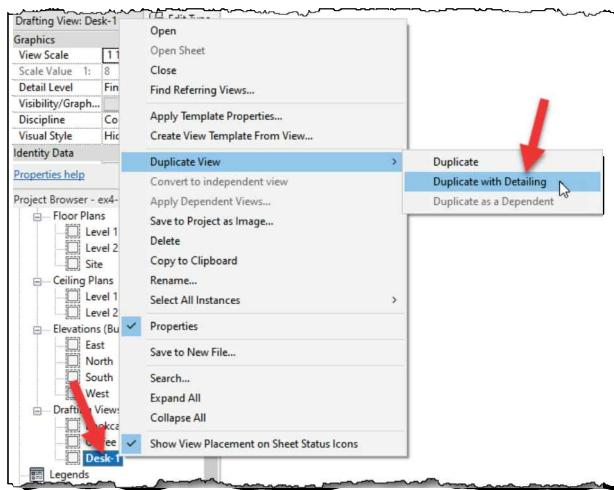

FIGURE 4-1.4 Drafting Views list – Right click on *Desk-1* view for menu
11. Right-click on the *Desk-1* view (Figure 4-1.4).
12. Select **Duplicate View → Duplicate with Detailing** from the pop-up menu (Figure 4-1.4).